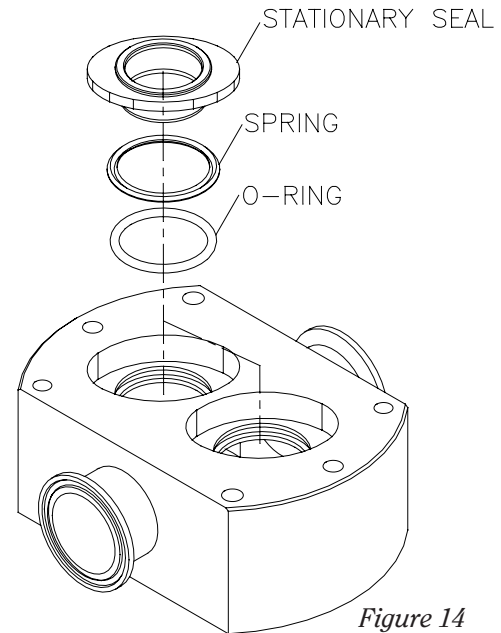
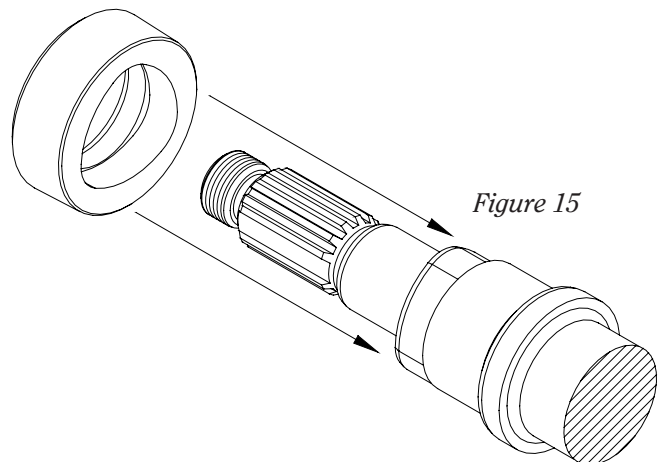

Figure 14
Figure 15
- a) With the pump housing lying face down on a table, lubricate and install the front stationary seal o-ring (13) in the housing o-ring groove.
- b) Place the stationary seal spring (33) into the stationary seal cavity in the back of the housing (*Figure 14*).
- c) Use your thumbs to install the front stationary seal (14) into the oval shaped stationary seal cavity in the back of the housing. Wipe the face of the stationary seals to remove any dirt or oil.
- d) Install the rotating seal onto the pump shaft (*Figure 15*). *Note:* the back of the rotating seal has a triangular recess that fits on to the triangular area of the shaft.